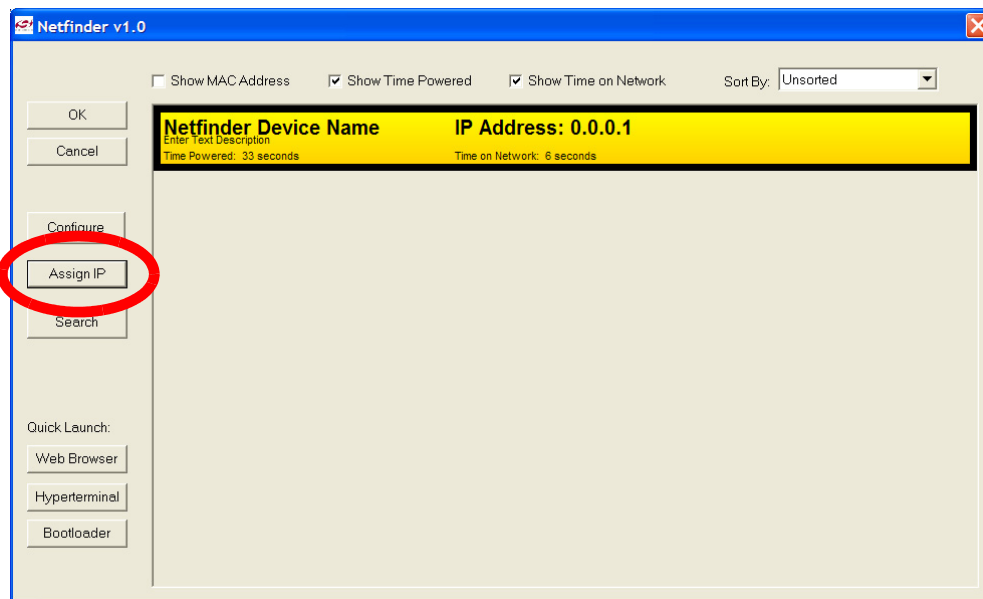

Figure 21. Static IP Address Mode
5. If the network does not have a DHCP server, then the embedded system will search for approximately 35 seconds before going into static IP address mode. After going into static IP address mode, Netfinder will display information about the device in a window with a yellow background. Select the device by **clicking inside the yellow area** and **pressing the Assign IP button** as shown in Figure 21.